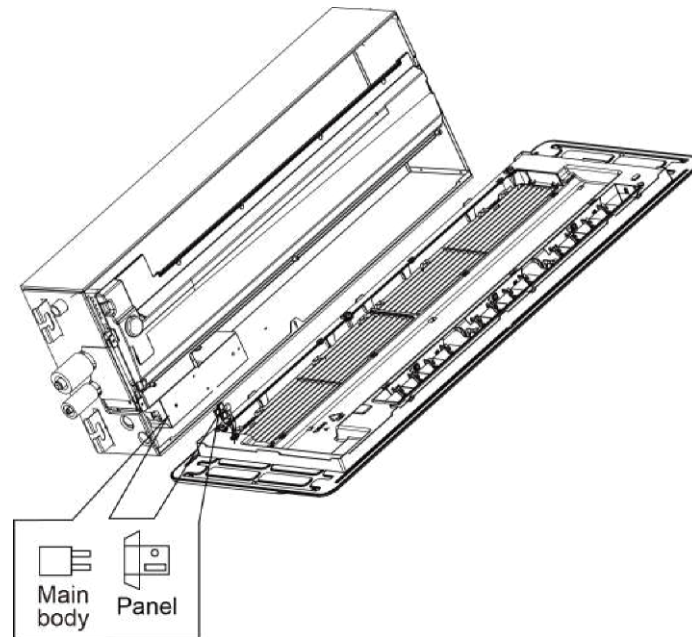

Fig 4.4.3
- (3) Connect the decoration panel terminals (Female) to body terminals (male) as shown in figure 4.4.3.